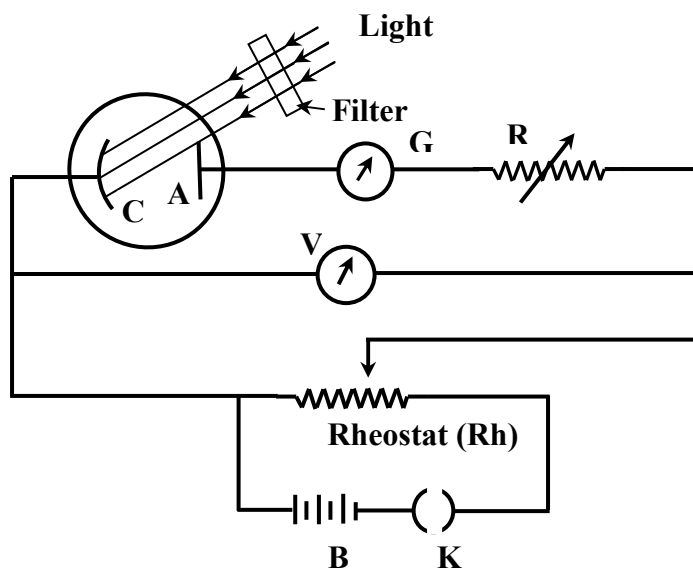

Fig. 1. Circuit diagram of photoelectric emission
Vacuum type photo emissive cell mounted in a wooden box provided with a wide slit, DC power supply, Optical bench with uprights, rheostat, voltmeter, a set of filter, key, galvanometer and connection wires (Fig. 1).
- The electrical connections are made as shown in fig. 1.